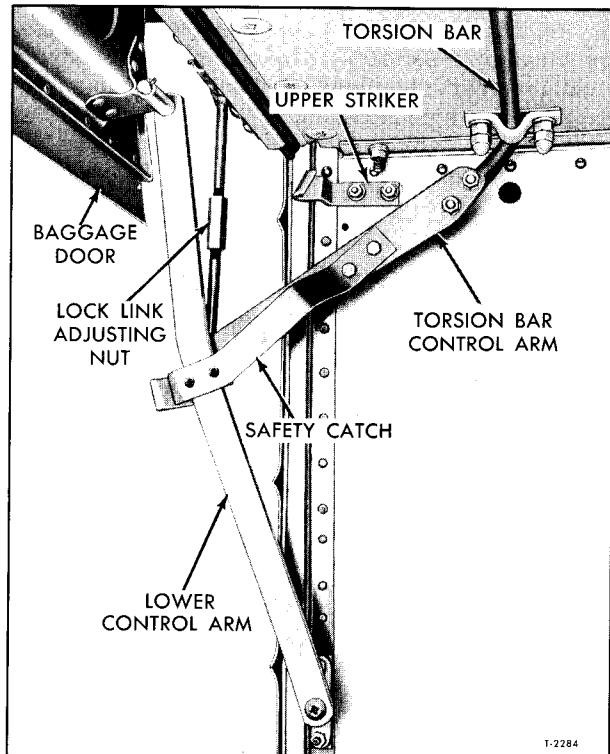
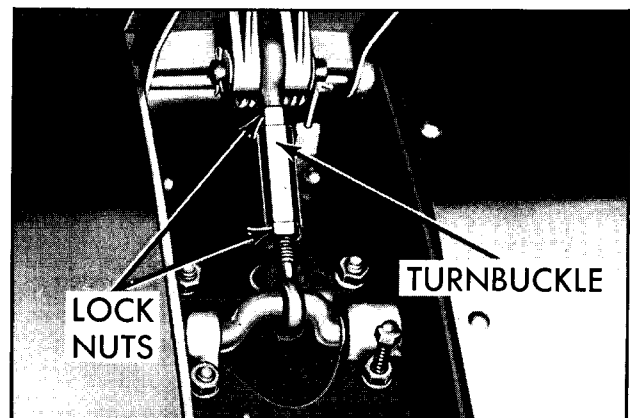

Figure 1—Baggage Compartment Door Operating Mechanism
Figure 2—Compartment Door Release Latch
BAGGAGE COMPARTMENT DOORS (Fig. 1)
Baggage compartment doors, which are pantograph type, incorporate flush type latch locks as shown in figure 2. Lock operating latch is flush mounted at center rub rail portion of each door. Insert fingers under operating latch; then pull outward and up to unlatch door. Doors are held in open position by action of torsion bars and safety catch as shown in figure 1. In order to lower door, it is first necessary to raise door slightly, then press safety catch away from torsion bar control arm. To close door, hold door in closed position; then release and push down on latch to secure door.
1. Loosen two lock nuts (fig. 2) securing turnbuckle on release latch control link.
3. Adjust upper striker (fig. 1), which has slotted holes, for seal tightness at top of door.
Baggage compartment door torsion bar tension is controlled by a lock link attached to torsion bar control arm. To adjust, turn lock link adjusting nut until satisfactory operation is obtained (see fig. 1).
5. Remove screws from lower end of door lower control arm (fig. 1). Door is now separate from hinge panel and can be removed.
2. Fasten lower control arms to coach body with screws (see fig. 1).